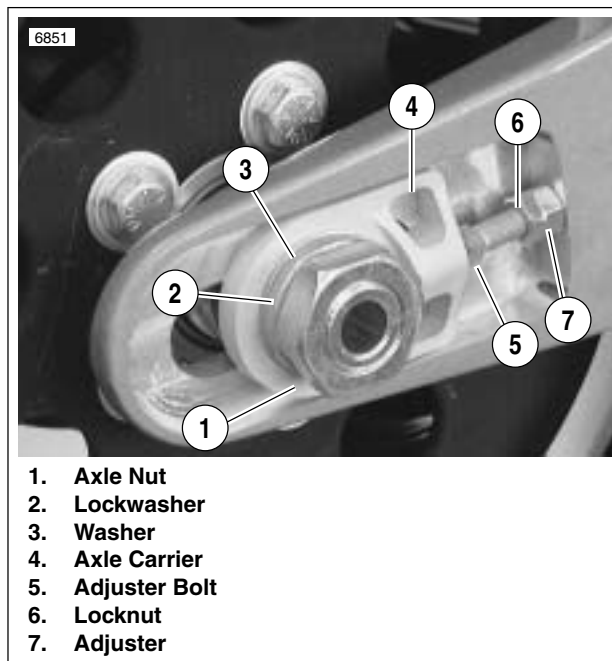
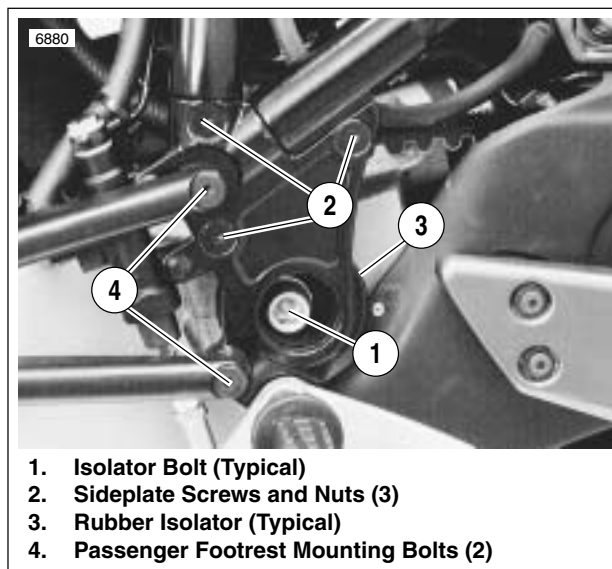

Figure 6-6. Rear Axle, Right Side
Figure 6-7. Sideplate (Typical)
- See Figure 6-6. Remove rear wheel.
- Remove rear axle nut (1) (metric), lockwasher (2), washer (3) and right side axle carrier (4).
- Hold axle adjuster bolt (5) with a 5/16 in. wrench. Loosen locknut (6) and axle adjusters (7). Repeat on left side.
- See Figure 6-7. Remove right isolator TORX bolt (1) and isolator (3). See 2.20 REAR ISOLATORS.
- See Figure 6-7. Install sideplate and right side passenger footrest mount.
- Tighten sideplate screws (2) to 19 ft-lbs (26 Nm).
- Tighten footrest mount bolts (4) to 10-15 ft-lbs (14-20 Nm).